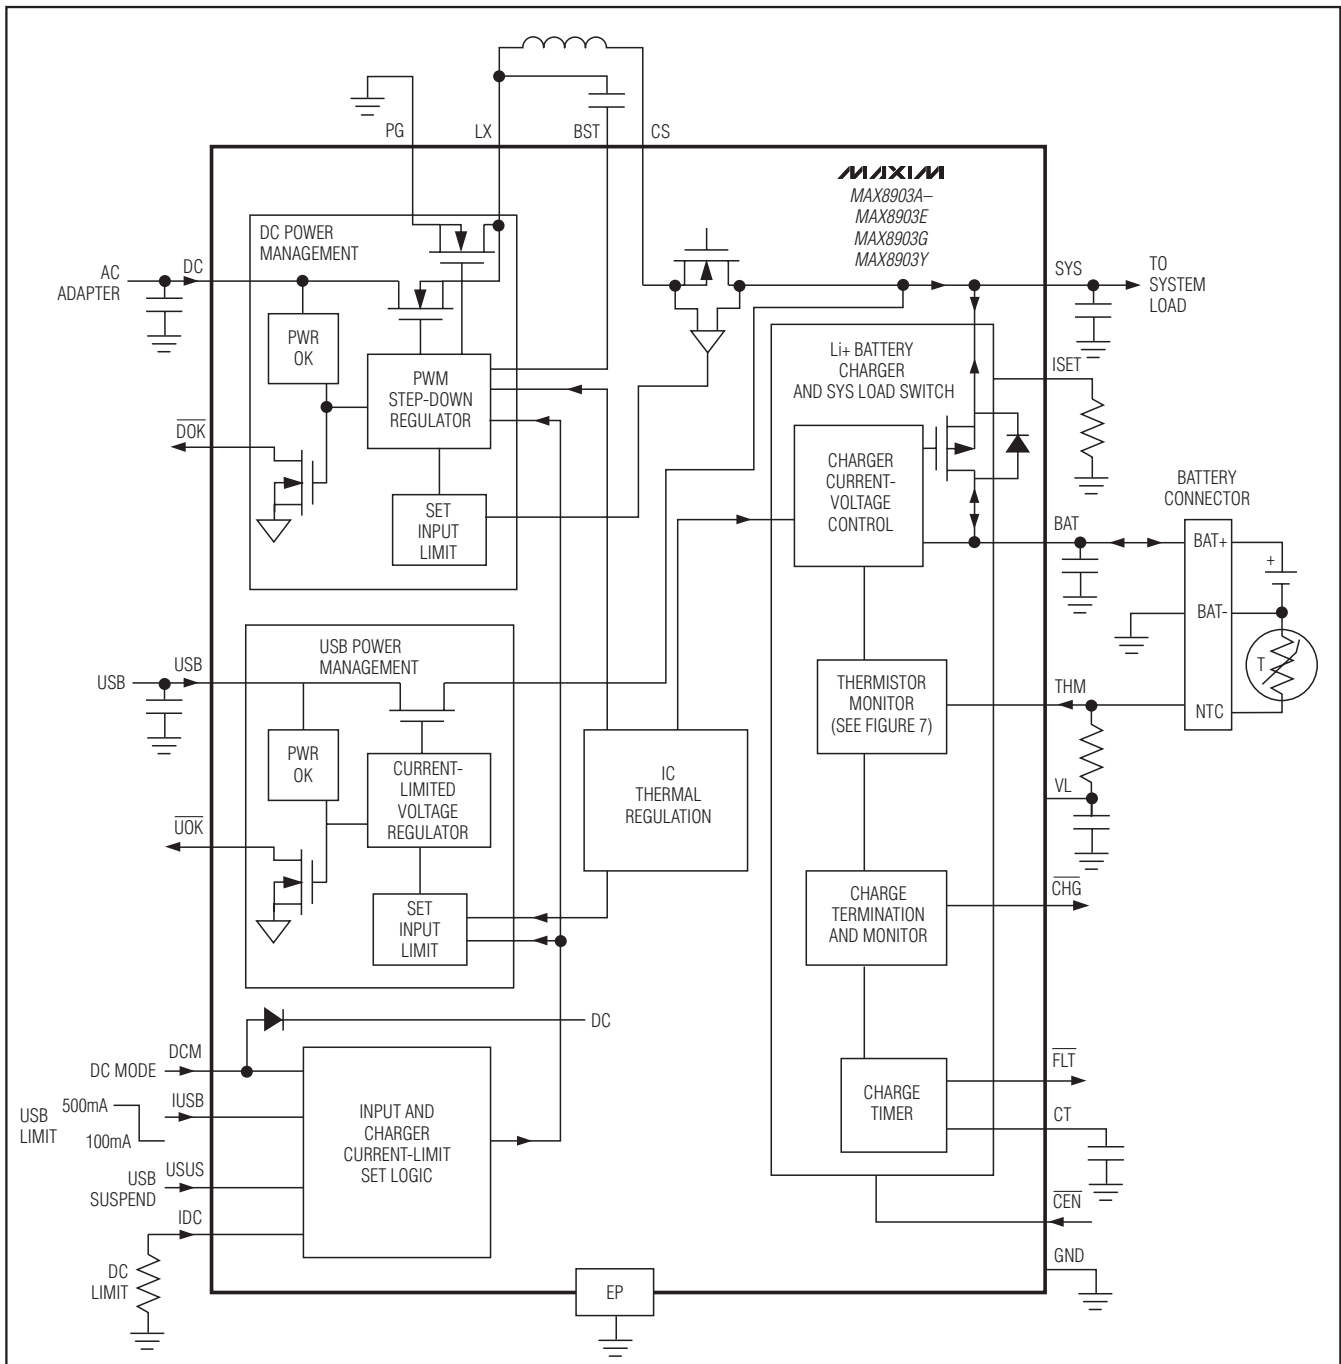
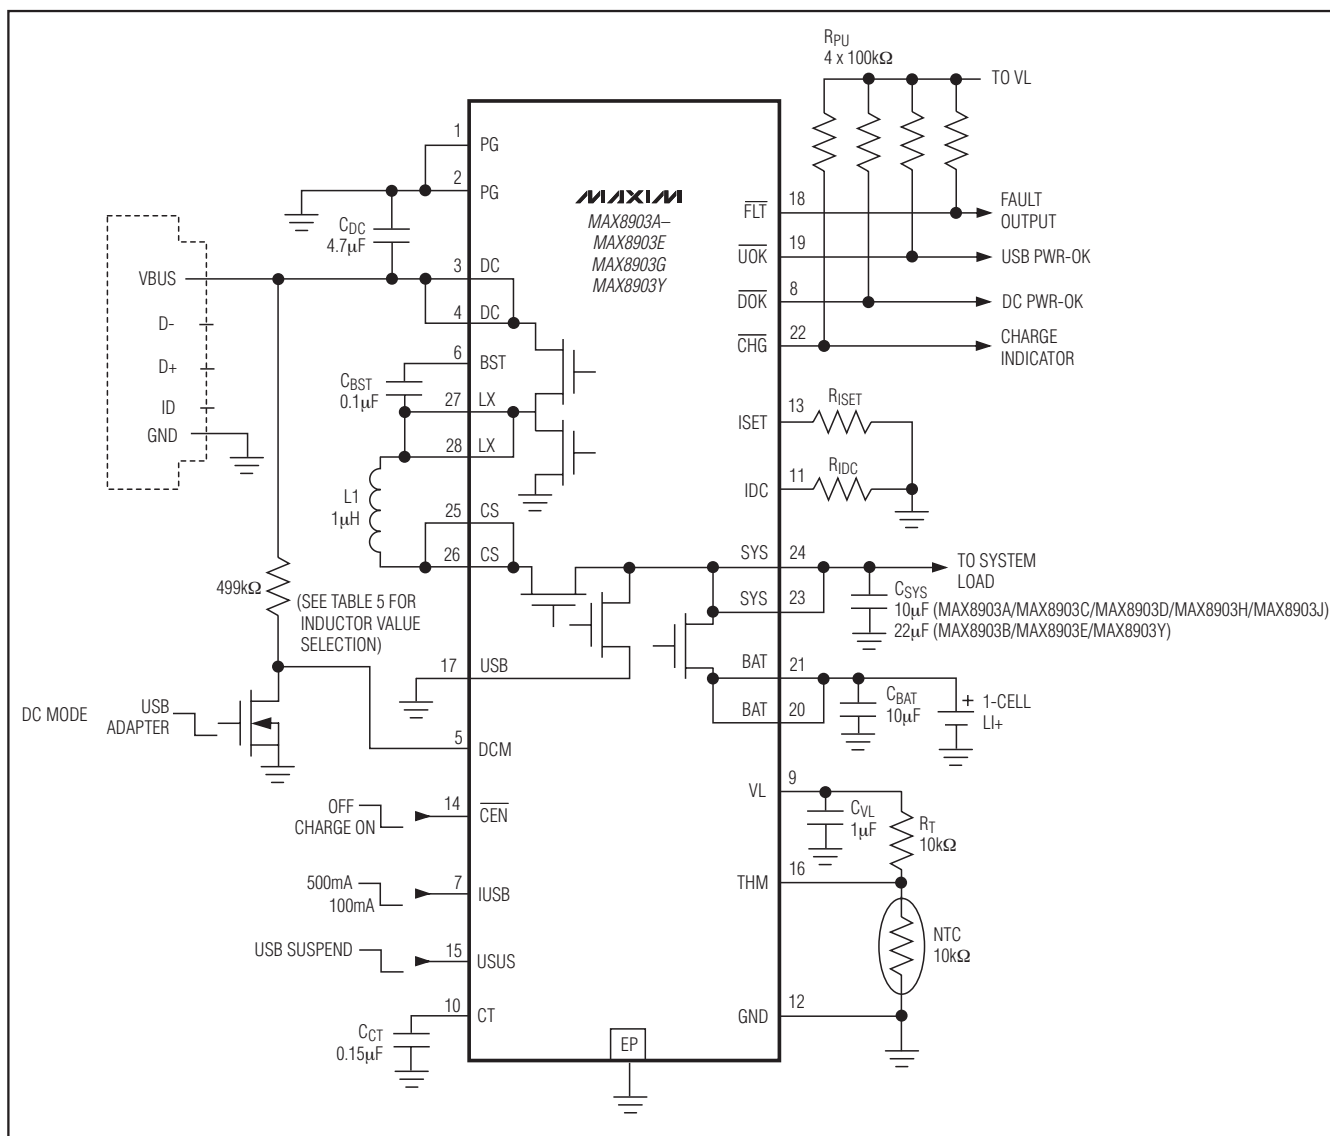

Figure 1. Functional Block Diagram
Figure 3. Typical Application Circuit Using a Mini 5 Style Connector or Other DC/USB Common Connector
As shown in Figure 1, the IC includes a full-featured charger with thermistor monitor, fault timer, charger status, and fault outputs. Also included are power-OK signals for both USB and DC. Flexibility is maintained with adjustable charge current, input current limit, and a minimum system voltage (when charging is scaled back to hold the system voltage up).
The DCM pin has an internal diode to DC as shown in Figure 1. To prevent current from flowing from DCM through the internal diode and to the DC input, DCM
cannot be driven to a voltage higher than DC. The circuit of Figure 3 shows a simple MOSFET and resistor on DCM to prevent any current from flowing from DCM through the internal diode to DC. This circuit of Figure 3 allows a microprocessor to drive the gate of the MOSFET to any state at any time.
An alternative to the simple MOSFET and resistor on DCM as shown in Figure 3 is to place a $1M\Omega$ resistor in series with the DCM input to the microprocessor. The microprocessor can then monitor the \overline{DOK} output and make sure that whenever \overline{DOK} is high DCM is also low. In the event that DCM is driven to a higher voltage than DC, the $1M\Omega$ series resistance limits the current from DCM through the internal diode to DC to a few μA .
*** There is an internal diode from DCM (anode) to DC (cathode) as shown in Figure 1. If the DCM level needs to be set by a μP , use a MOSFET for isolation as shown in Figure 3.